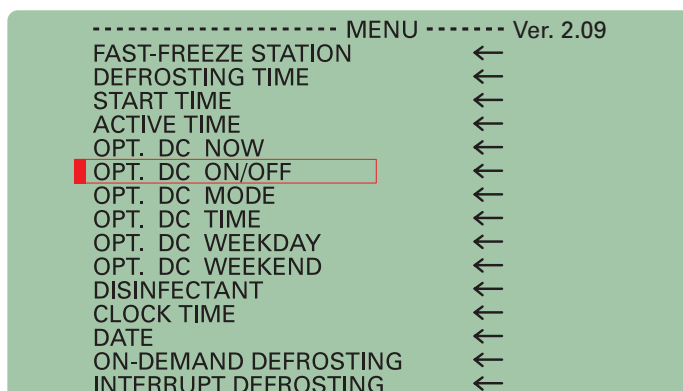

Figure 116. Display: Cold D (Option DC) ON/OFF.
- Use the arrow keys (Fig. 114.5 and 114.6) to select the required setting in this submenu (Fig. 116).